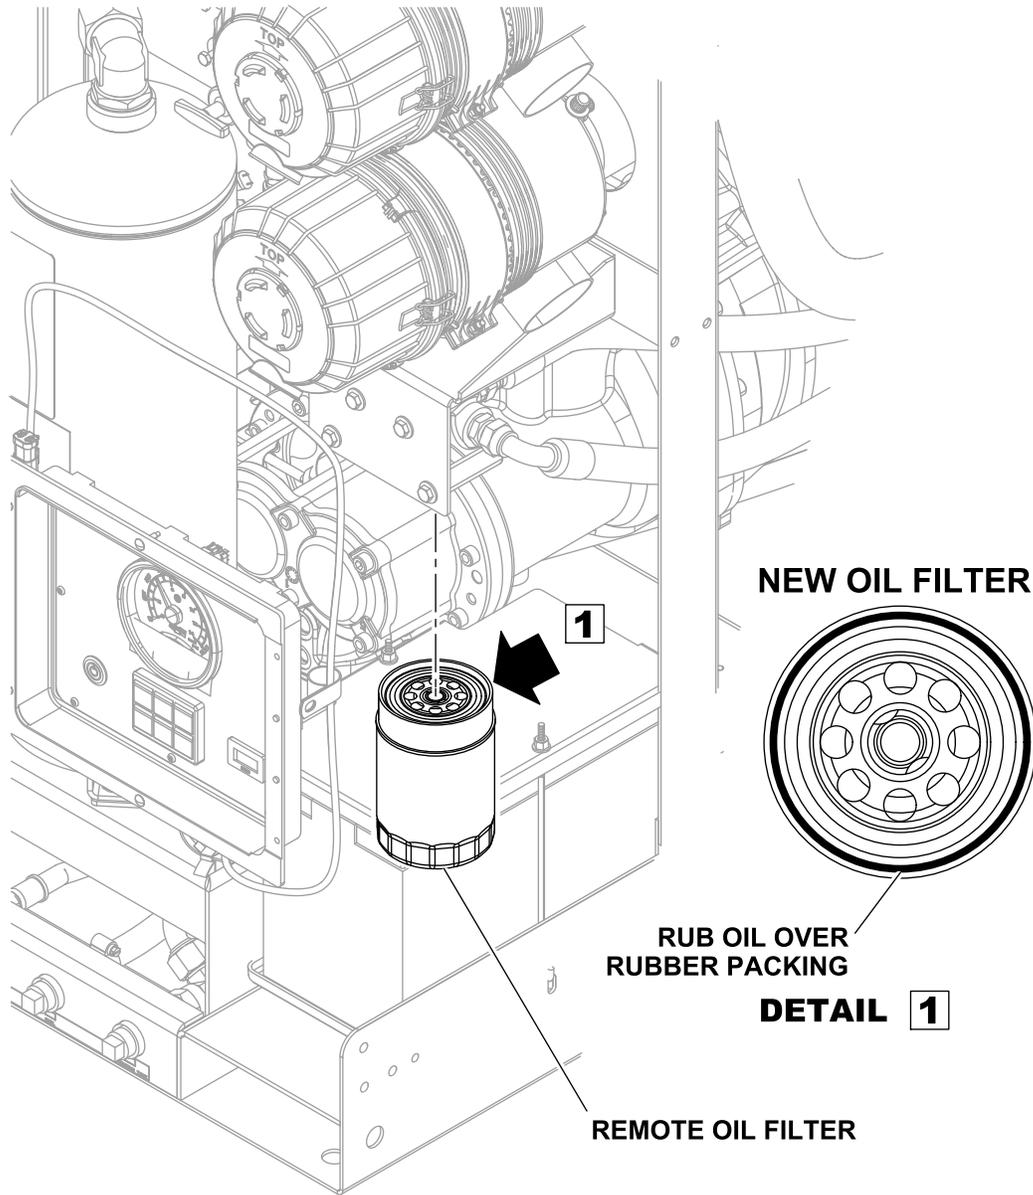

FIGURE 4-5: REPLACING OIL FILTER
3. Loosen the oil filter or oil filter cap with oil filter wrench, and allow the oil to drain from the oil filter (See Figure 4-5).
1. Cleanly wipe the surface on which the oil filter is mounted. (See Figure 4-5).
2. Place a light coating of new oil on the gasket of the new oil filter (See Figure 4-5) so it will install smoothly onto the engine. (Note: Do not use grease!) By hand, install the new oil filter onto the engine by turning in a clockwise direction. Once the oil filter gasket first contacts the mounting plate gasket surface, tighten the filter, preferably by hand. Generally, this is three-quarters to one full turn after the filter gasket contacts the engine. (NOTE: Cartridge oil filter replacement procedures may differ. Refer to engine owner's manual for instructions.)